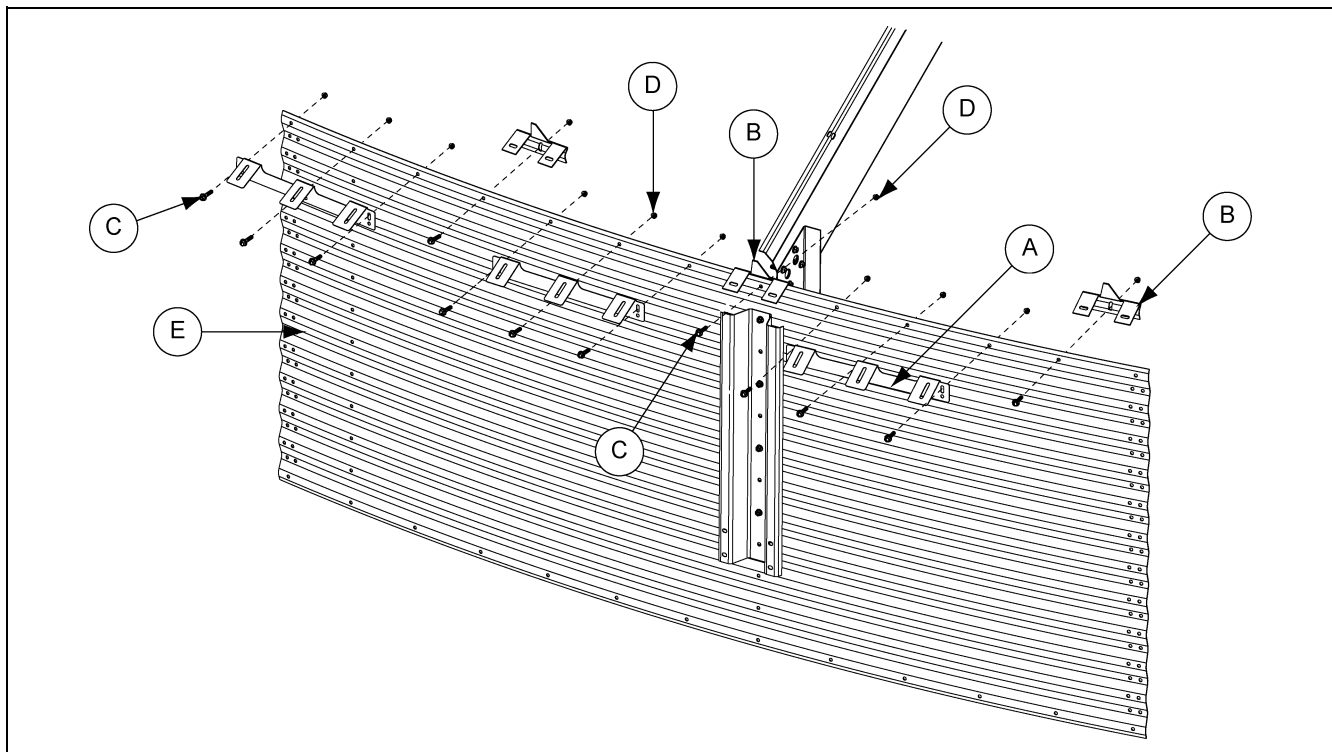

Figure 4D Installing the Eave Clip and Intermediate Eave Angle to the Sidewall Sheet for 4.00"
2. Install the intermediate eave angle (A) to the sidewall sheet (E) with flange bolts (C) and flange nuts (D) between the two (2) eave clips (B or F).
NOTE: Make sure to install the intermediate eave angle (A) to the outside of the sidewall sheet (E) for 4.00" bins. (See Figure 4D.)